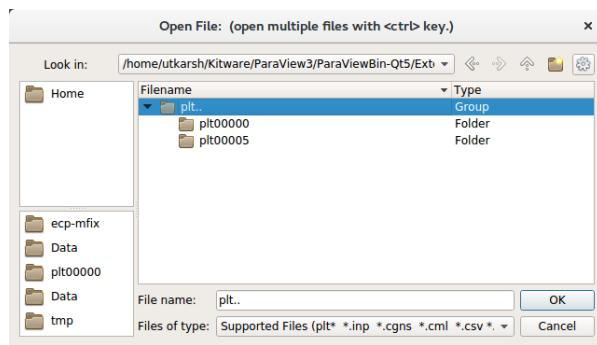

Fig. 13.2: : File dialog in ParaView showing a group of plotfile directories selected
1. Run ParaView v5.5, and select then “File” → “Open”. You will see a combined “plt..” group. Click on “+” to expand the group, if you want inspect the files in the group. You can select an individual plotfile directory or select a group of directories to read them a time series, as shown in Fig. 13.2, and click OK.